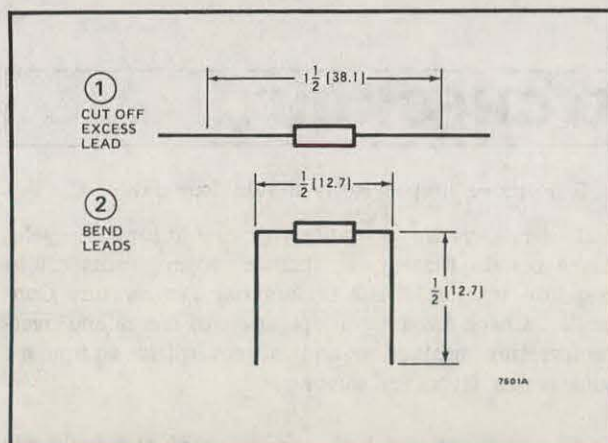

FIG. 9—PLUG-IN RESISTOR PREPARATION. DIMENSIONS IN INCHES [MILLIMETRES IN BRACKETS].
To change either setting, refer to Table 1 to select the resistor(s) needed. See Fig. 9 to prepare resistor for installation. Remove the old resistor and plug in the replacement. Be sure the correct resistor is inserted in the proper position. Use 1/8 watt, 1 percent resistors, available locally.
To change the setting to 37 F [3 C], simply remove the freeze protection resistor and leave it open circuited. For a setting of 42 F [6 C], install a 110 kilohm resistor using the resistor preparation indicated in Fig. 9. Use a 48.7 kilohm resistor to change the freeze protection setting to 47 F [8 C].
To change the setting, refer to Table 2 to select the resistors needed. See Fig. 9 to prepare resistor for installation. Remove the old overtemperature resistors and insert the correct resistor in the proper position. Use 1/8 watt, 1 percent resistors, available locally.
1. Remove cover. Remove the OFF resistor and replace with an 11,500 ohm resistor according to resistor preparation shown in Fig. 9.